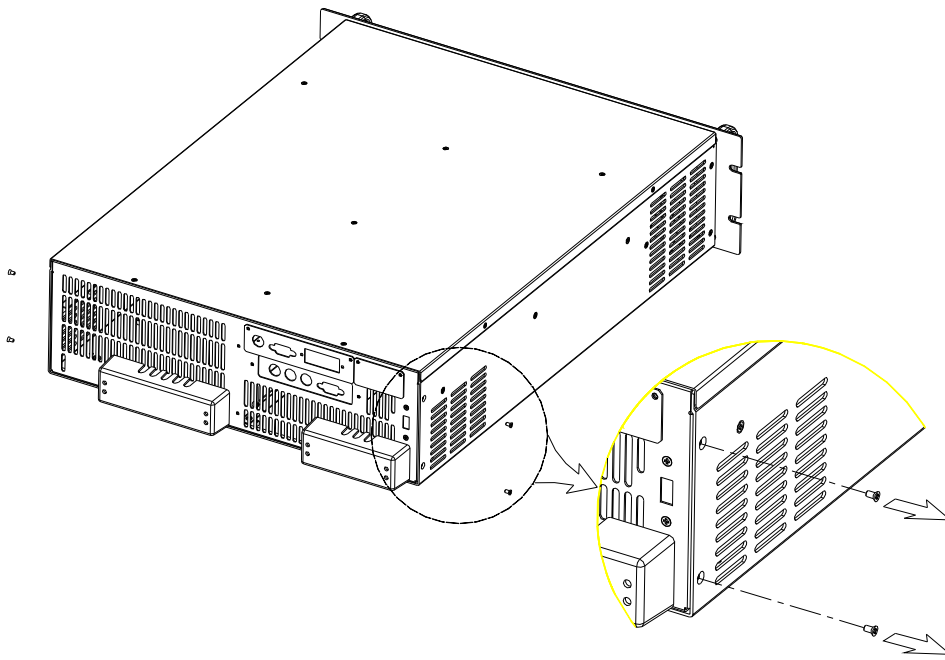

Figure 1
1. Remove the 4 screws from both sides of the rear panel (Figure 1).